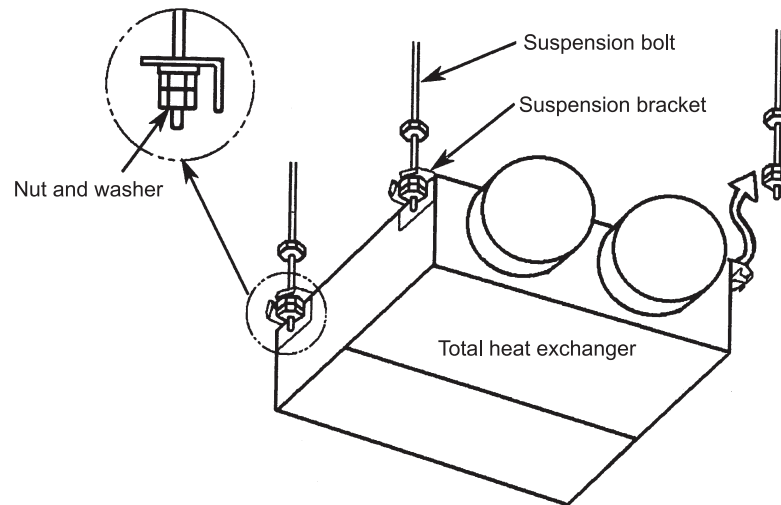

Fig. 4.5 Suspension Method
*Hang the suspension bracket onto the nut and washer of every suspension bolt. As shown in Fig. 4.5, start from the left.